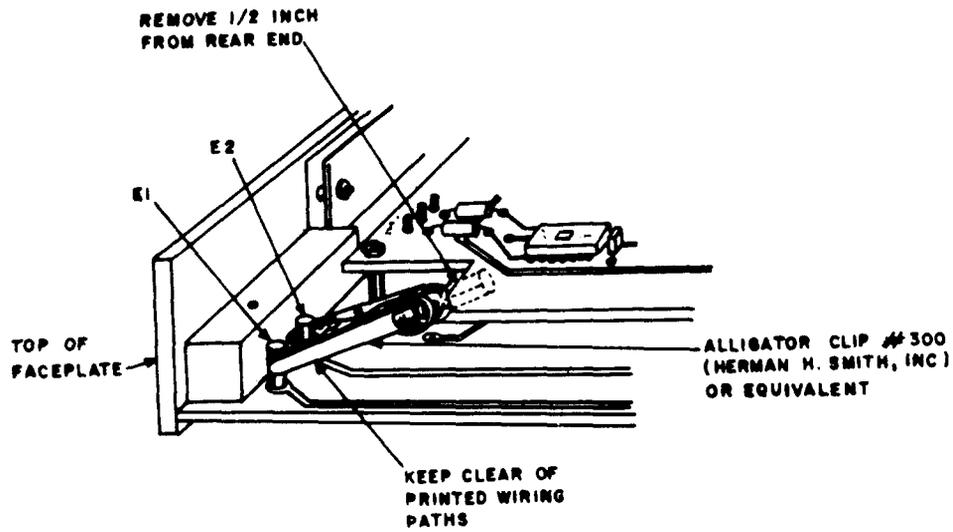

Fig. 1—Temporary Modification of HL37 Common Logic Circuit Pack Using Alligator Clip to Disable Line Driver
19	<p>Remove the HL37 CP from shelf position C (10) [20] and replace it with the HL37 CP modified according to Fig. 1.</p> <p>Requirement: The HL37 CP displays a flashing [.</p>